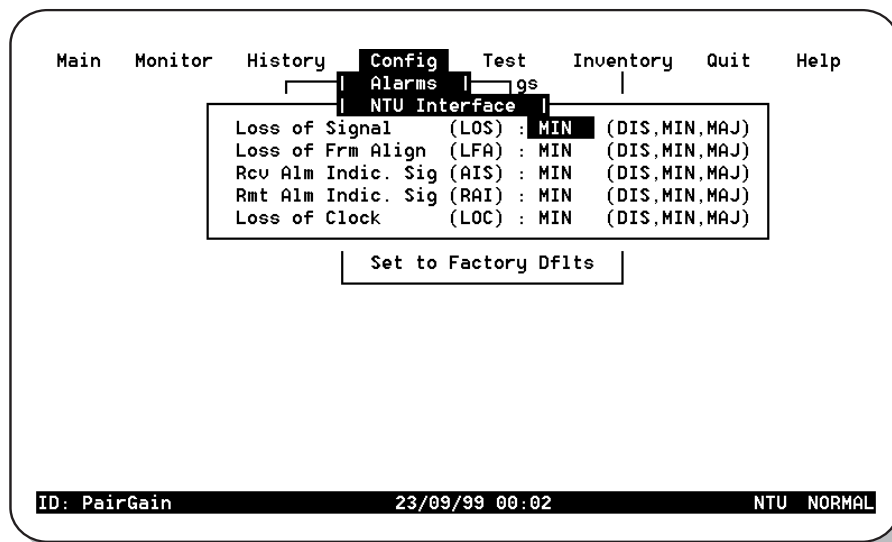

Figure 26. Config Alarms NTU Interface Menu
- **N** for the *Config Alarms NTU Interface* menu (Figure 26)